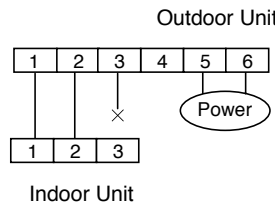

Fig. 4
3. Disconnect the cable from the terminal 3 on the indoor unit terminal strip. (Fig. 4)